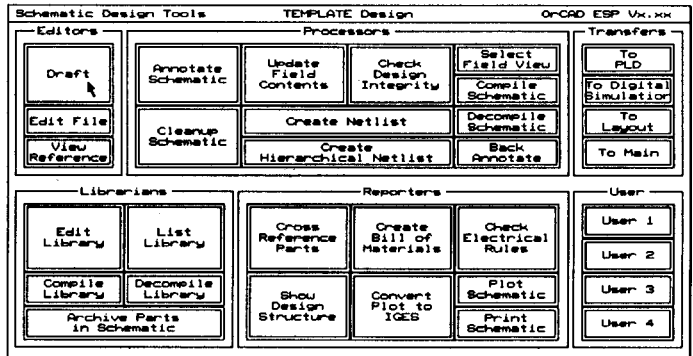

Figure 2-6. Schematic Design Tools 386+ screen.
2. Select the **Execute** command. The Schematic Design Tools screen displays (figure 2-6).